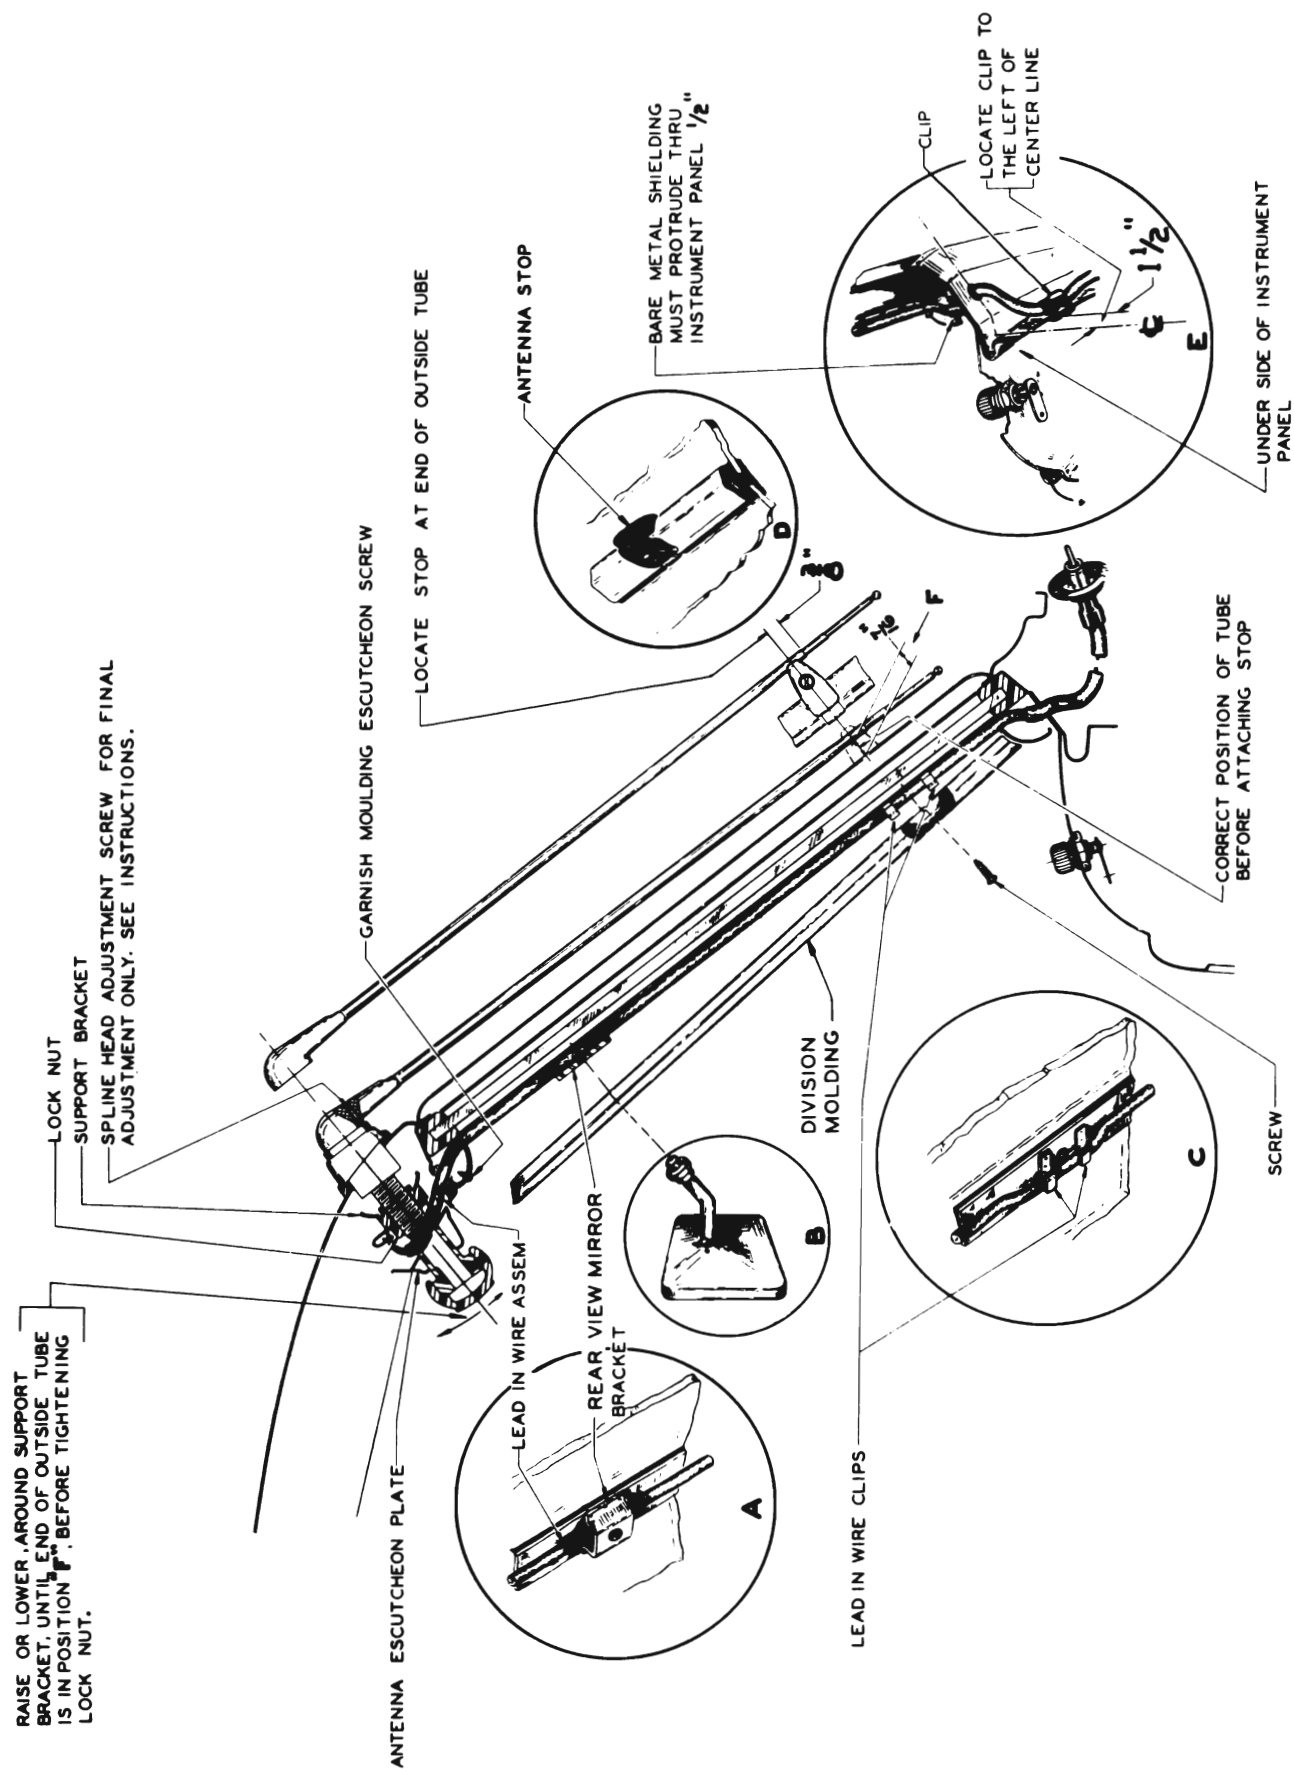
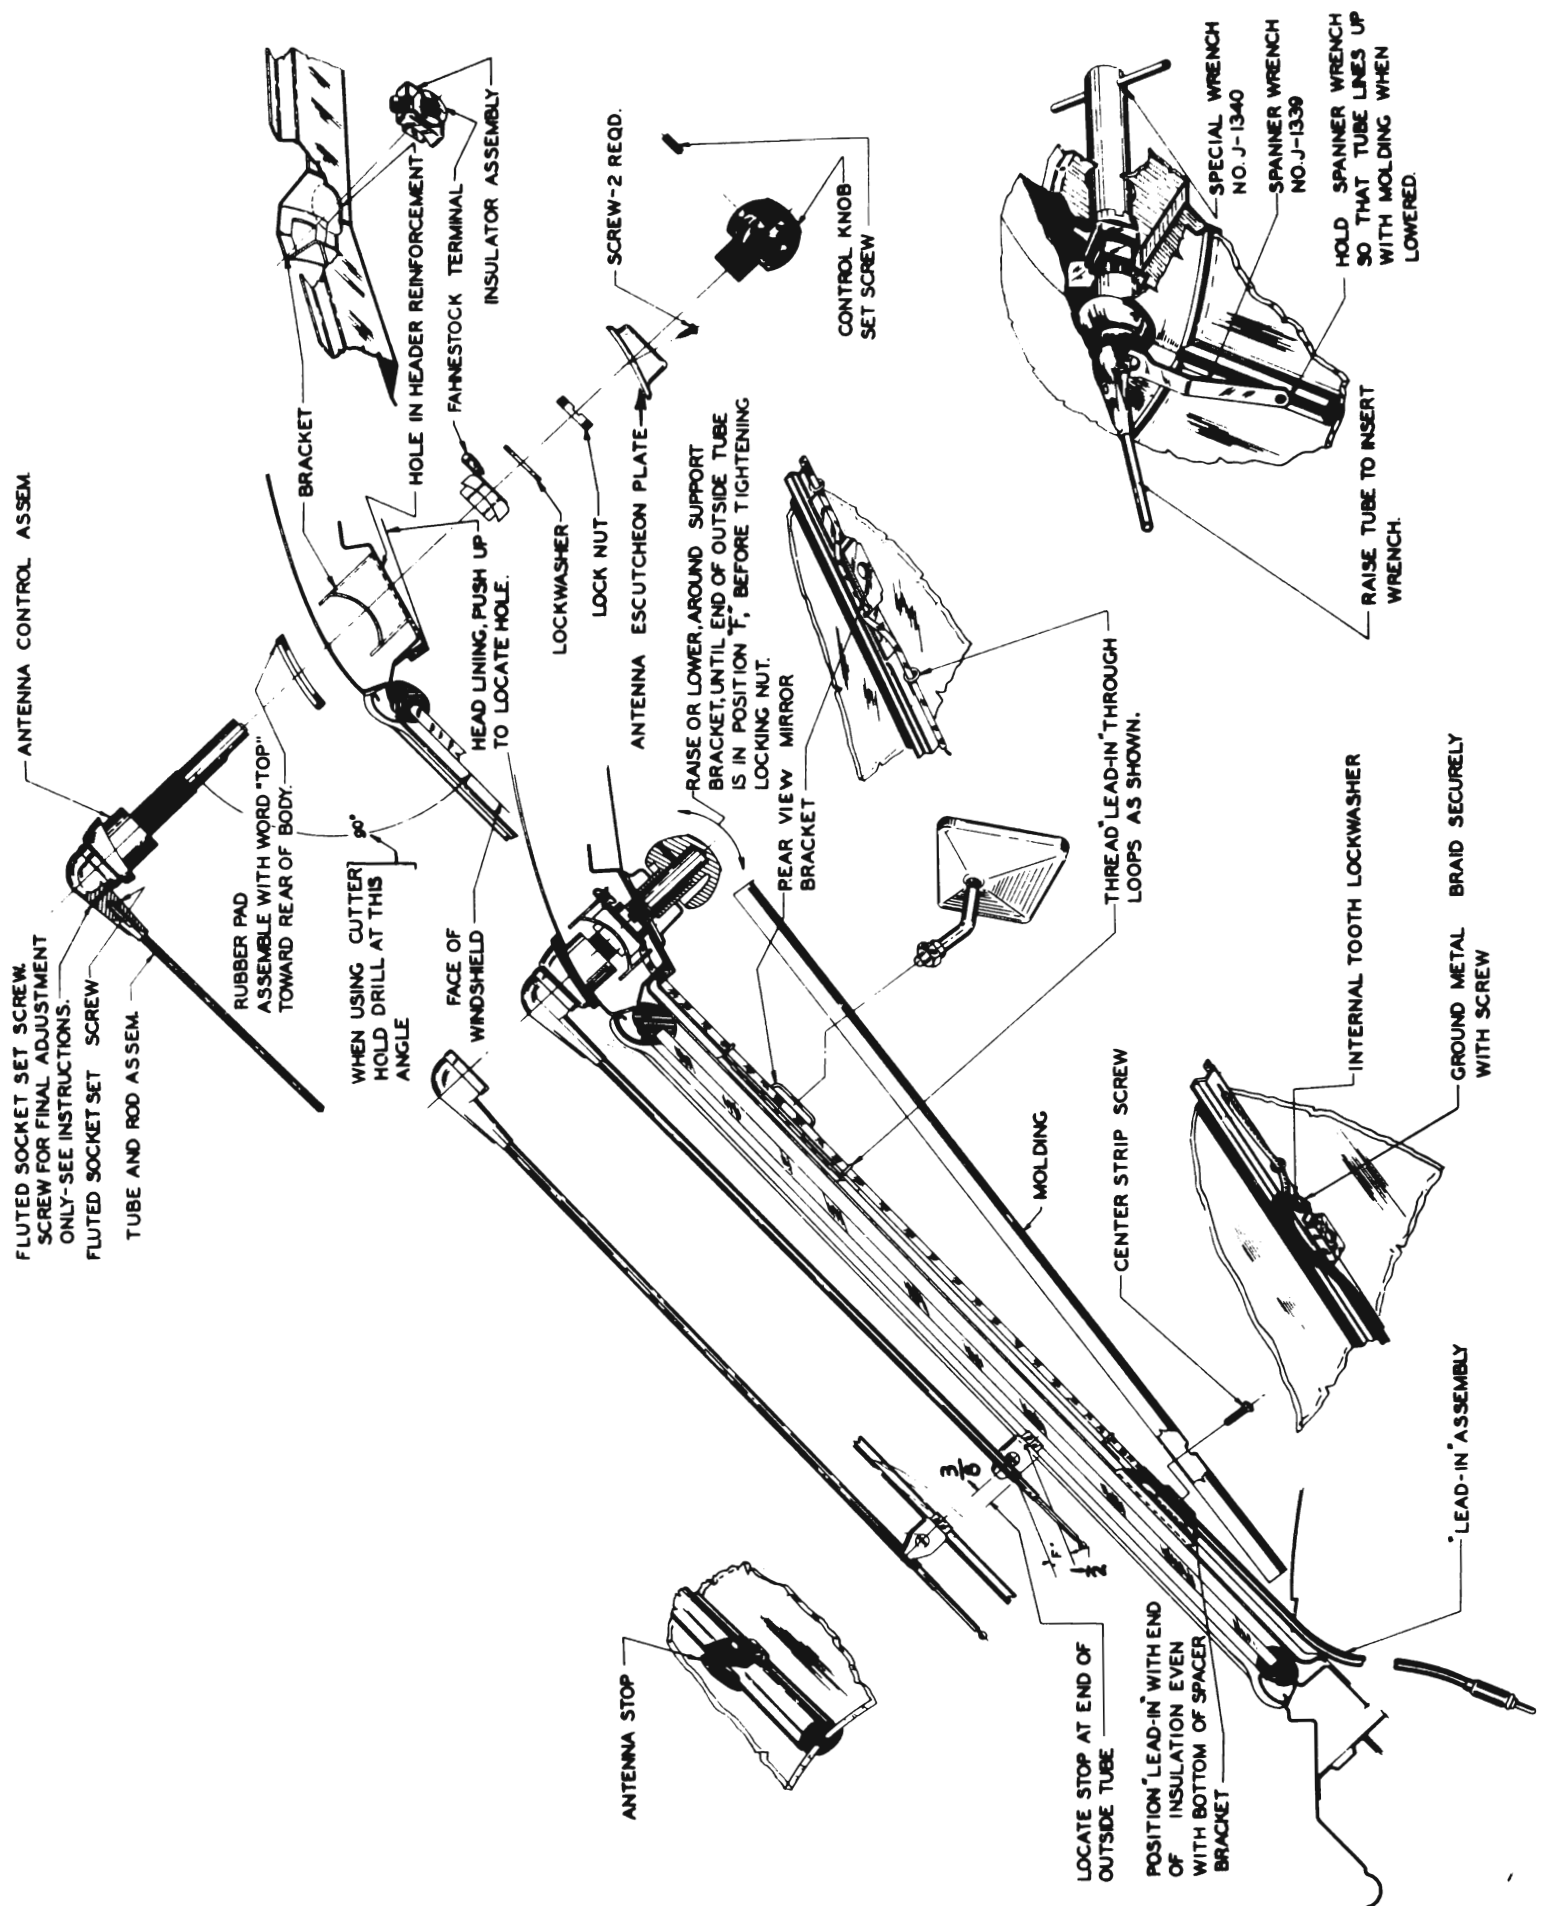

Figure 11-6—Antenna Lead-in Wire Installation—1948 Closed Bodies
Figure 11-7—Antenna Lead-in Wire Installation—1949 Closed Bodies
Check lead-in wire where it is fed up through hole in center of instrument panel to make sure that it is properly installed and grounded. See figure 11-7 or 11-8.
2. If a $1\frac{1}{8}$ " diameter piloted circular cutter is available, drill proper size pilot hole at center punch mark, then cut the $1\frac{1}{8}$ " hole while holding cutter at 90° to windshield glass. See figure 11-7. If cutter is not available, use center punch mark as center to scribe a circle $1\frac{3}{16}$ " diameter, then drill and file out to circle.
4. If antenna tube and rod assembly is not assembled to the antenna control assembly, remove spline head screw from control, insert tube so that hole in tube aligns with screw hole in control then install and tighten set screw securely. See figure 11-7.
strument panel until the bare metal shielding on lead-in wire protrudes through panel approximately $\frac{1}{2}$ ". Install clip to hold wire to instrument panel to establish a positive ground and to prevent shifting of wire. See figure 11-6, view E. **NOTE:** *Correct installation of metal shielding and clip is important in preventing ignition interference in radio.*
6a. On 1949 models, feed the antenna lead-in wire up through the hole in center of instrument panel until insulation is even with bottom of spacer bracket on center division, then attach metal braid to ground with screw and internal tooth lock washer. See figure 11-7.
7. On 1948 model, pass upper end of lead-in wire through the rear view mirror bracket (fig. 11-6, view A). On 1949 model, pass wire through loops on center division and around rear view mirror bracket (fig. 11-7).
12. Place tube in the "down" position and raise or lower the inside of the antenna control assembly until the end of the outside tube is $\frac{7}{16}$ " from the top of the windshield division (outer) molding. See figure 11-6 or 11-7 at "F". NOTE: *It is essential that this adjustment be made correctly in order that the rod and tube assembly can be easily located in the antenna stop by means of the control knob inside the car.*
16. Install antenna stop on windshield division (outer) molding in location shown in figure 11-6 or 11-7 and tighten screw securely. If